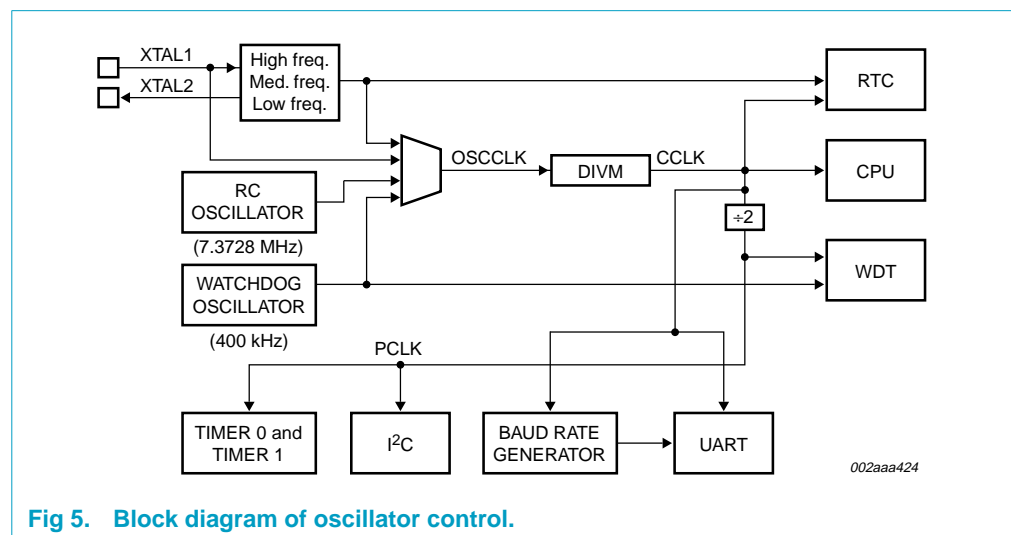

Fig 5. Block diagram of oscillator control.
**OSCCLK** — Input to the DIVM clock divider. OSCCLK is selected from one of four clock sources (see Figure 5) and can also be optionally divided to a slower frequency (see Section 8.7 "CPU Clock \(CCLK\) modification: DIVM register").